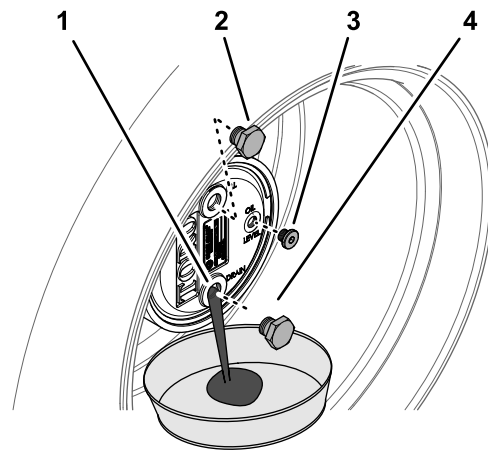

Figure 102
2. Remove the fill plug at the 12 o'clock position and the check plug at the 3 o'clock position (Figure 102).
3. Place a drain pan under the planetary hub, remove the drain plug at the 6 o'clock position, and allow the oil to fully drain (Figure 102).
5. Install the drain plug into the drain hole of the planetary housing (Figure 102).